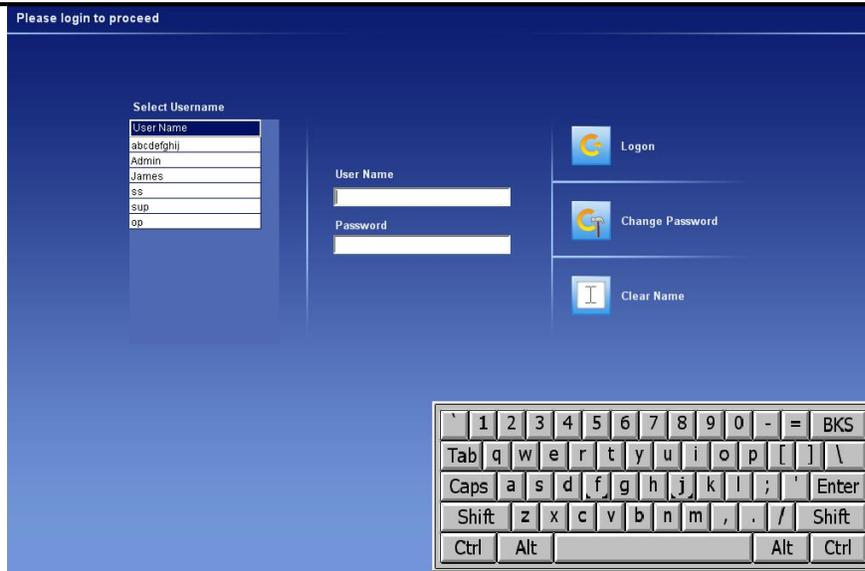

Figure 7 – User Login Screen
From the Windows® Desktop, select the SmartTouch™ icon (**STUV**) or the SmartTouch™ Multiple Machine icon (**STMM**) by double clicking or double tapping (touch screens only) it. The system will display the language selection screen (See **Figure 6 – Language Selection Screen**). Select the appropriate language flag. After selecting a language, the user login screen will come up (See **Figure 7 – User Login Screen**).
At the User Login screen (See **Figure 7 – User Login Screen**), select the *Admin* user in the **Select Username** field by tapping/clicking it once. The *Admin* user name will appear in the **User Name** field and the cursor will appear in the **Password** field.
1. At the login screen (See **Figure 7 – User Login Screen**), select the assigned user name in the **Select Username** box by tapping it once. The selected user name will appear in the **User Name** field and the cursor will appear in the **Password** field.
1. At the User Login screen (See **Figure 7 – User Login Screen**), select the assigned user name in the **Select Username** box by tapping it once. The selected user name will appear in the **User Name** field and the cursor will appear in the Password field.